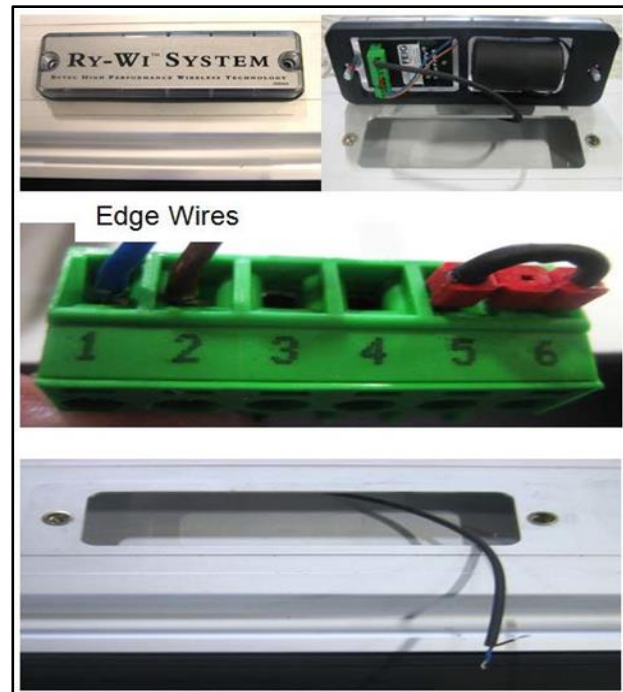

Figure 85
5. Disconnect the reversing edge control wires from the mobile unit terminal block. (See Figure 85)